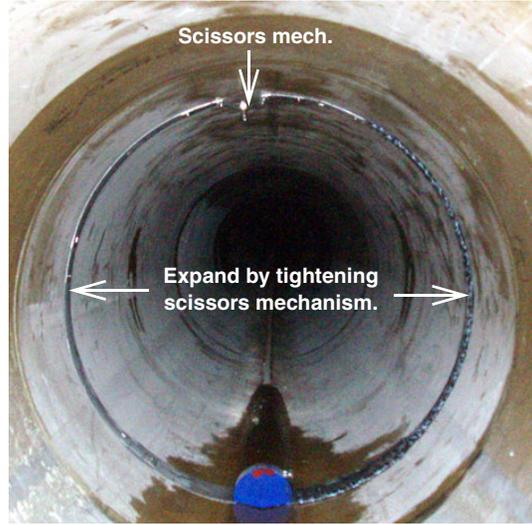

Figure 2-33 Expand and secure the ring against the channel wall
5. Lower the assembly into the pipe with the sensor directly on the bottom center, parallel with the channel wall, facing into the flow. Tighten the scissors assembly to expand the ring outward so that it is pressed entirely flat against the pipe wall (Figure 2-33).